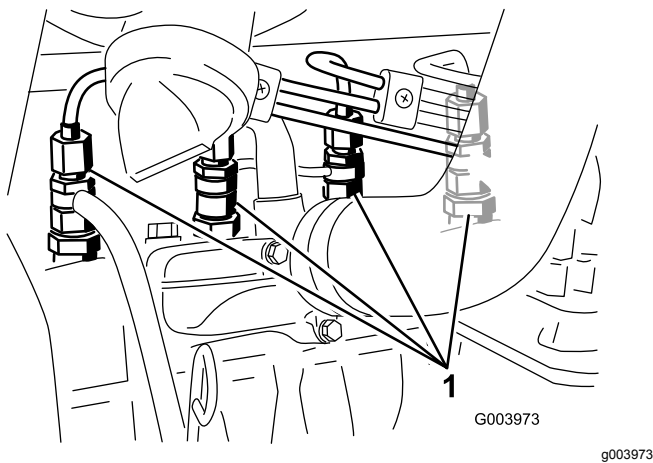

Figure 37
1. Loosen the pipe connection to the No. 1 nozzle and holder assembly (Figure 37).